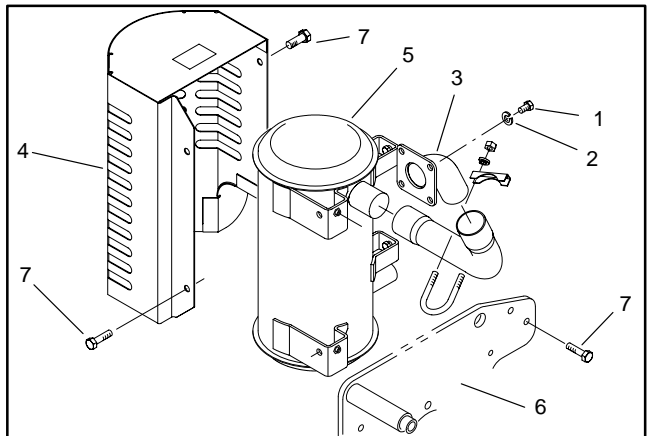

Figure 24
10. Remove muffler as follows (Fig. 24):